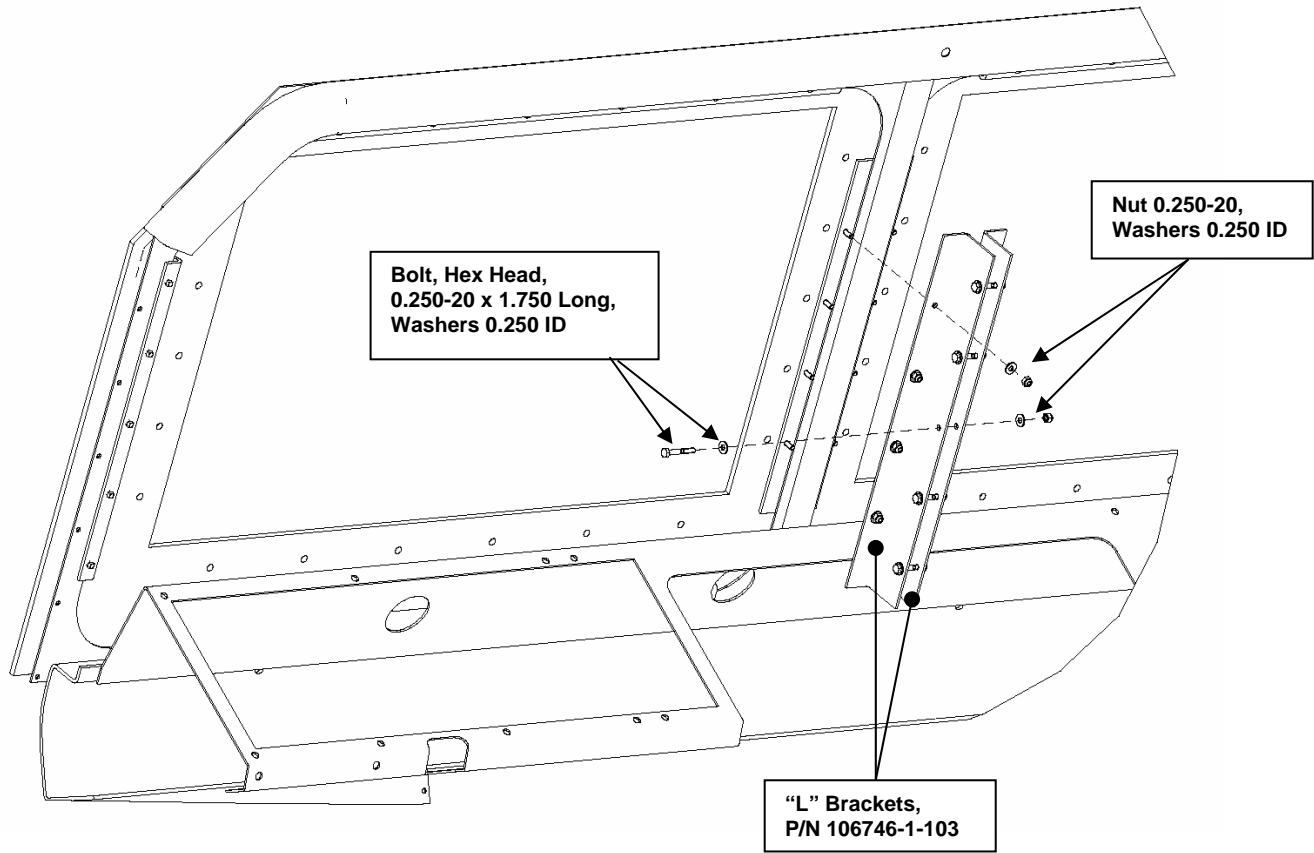

**Figure 18. Position the Windshield Armor Frame into the cab windshield opening.**
- h) Pre-fit the Windshield Frame Assembly on the vehicle, as shown in Figure 18. Adjust the Side and Bottom Brackets as needed to line up the studs on the Windshield Frame. Use caution to avoid damage to the studs. DO NOT hammer the studs into position on the brackets. Remove the Windshield Frame Assembly and tighten the set screws in the Side and Bottom Windshield Brackets.